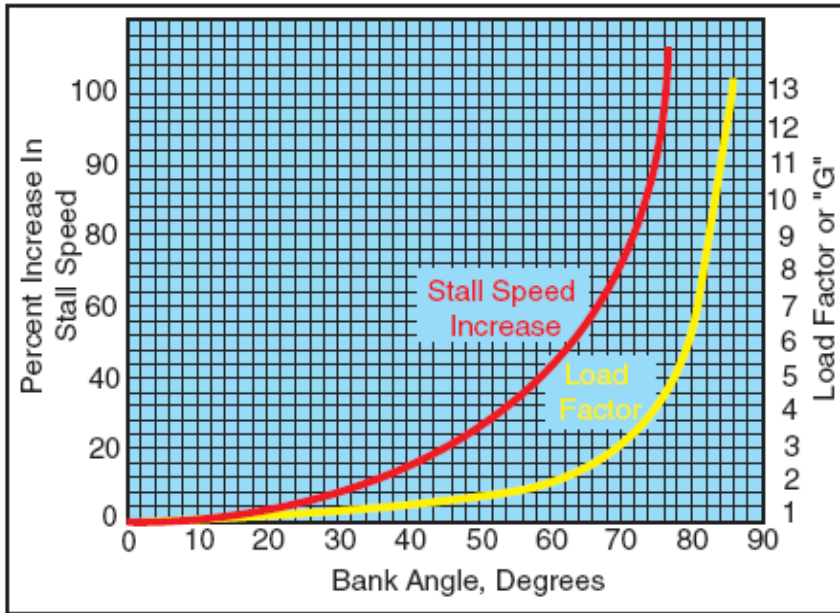

Figure 3-25. Increase in stall speed and load factor.
- 4) According to Figure 3-25, a bank angle of 40 degrees increases the load factor to approximately